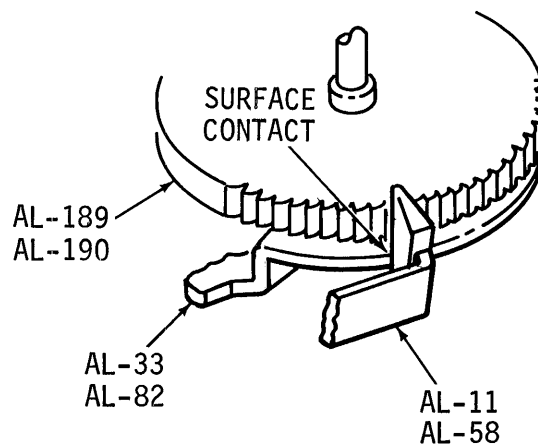

Figure 5-22. PAWL, RATCHET AND CAM MOVEMENT
- d. Adjust the ribbon rod links (AL-98, 97) so that the cam (part of left and right ribbon releasers (AL-33, 82) is just contacting the left and right pawls (AL-11, 58) at that point where the ribbon feed pawls are fully engaged with their respective left and right ribbon feed ratchets (AL-189, 190) (See Fig. 5-22).